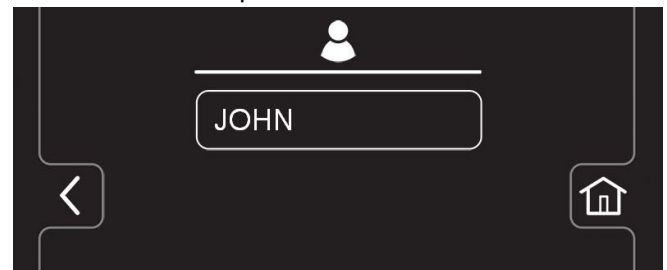

FIG. 174
- The new user profile is now saved to the operator profile list as shown (Figure 174). Multiple Operator and Supervisor user profiles can be added. Press the back arrow to return to the previous screen to add more user profiles.